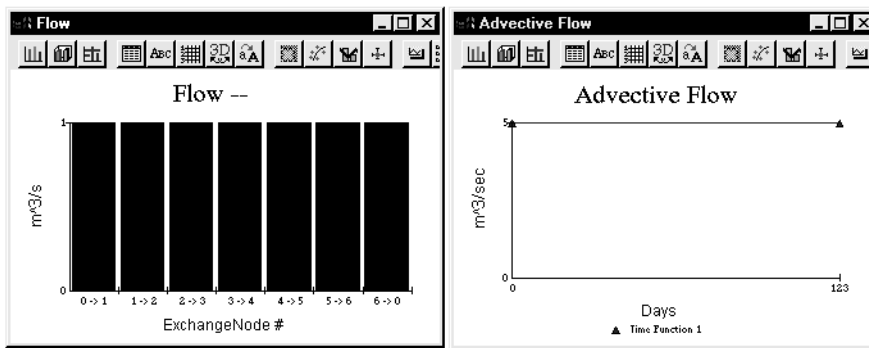

Figure 22: View Input Plots
2. Two plots can be displayed from Card D, one for flow data and the other of the advective flow, see *Figure 22*.